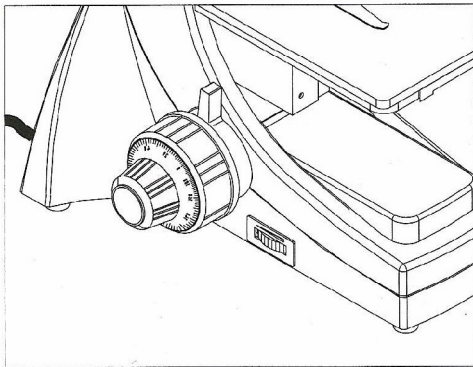

Fig.21
3.2.2 Adjusting the brightness(Fig.21)